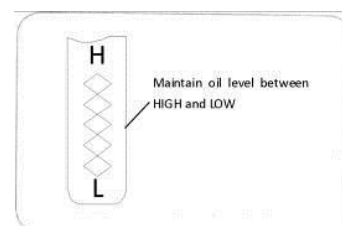

Figure 26
4. Unscrew and remove oil fill cap from oil filler tube. Note oil level. if oil reading on dipstick is below "**LOW**" mark, slowly add oil to reach "**HIGH**" level. See Figure 26.